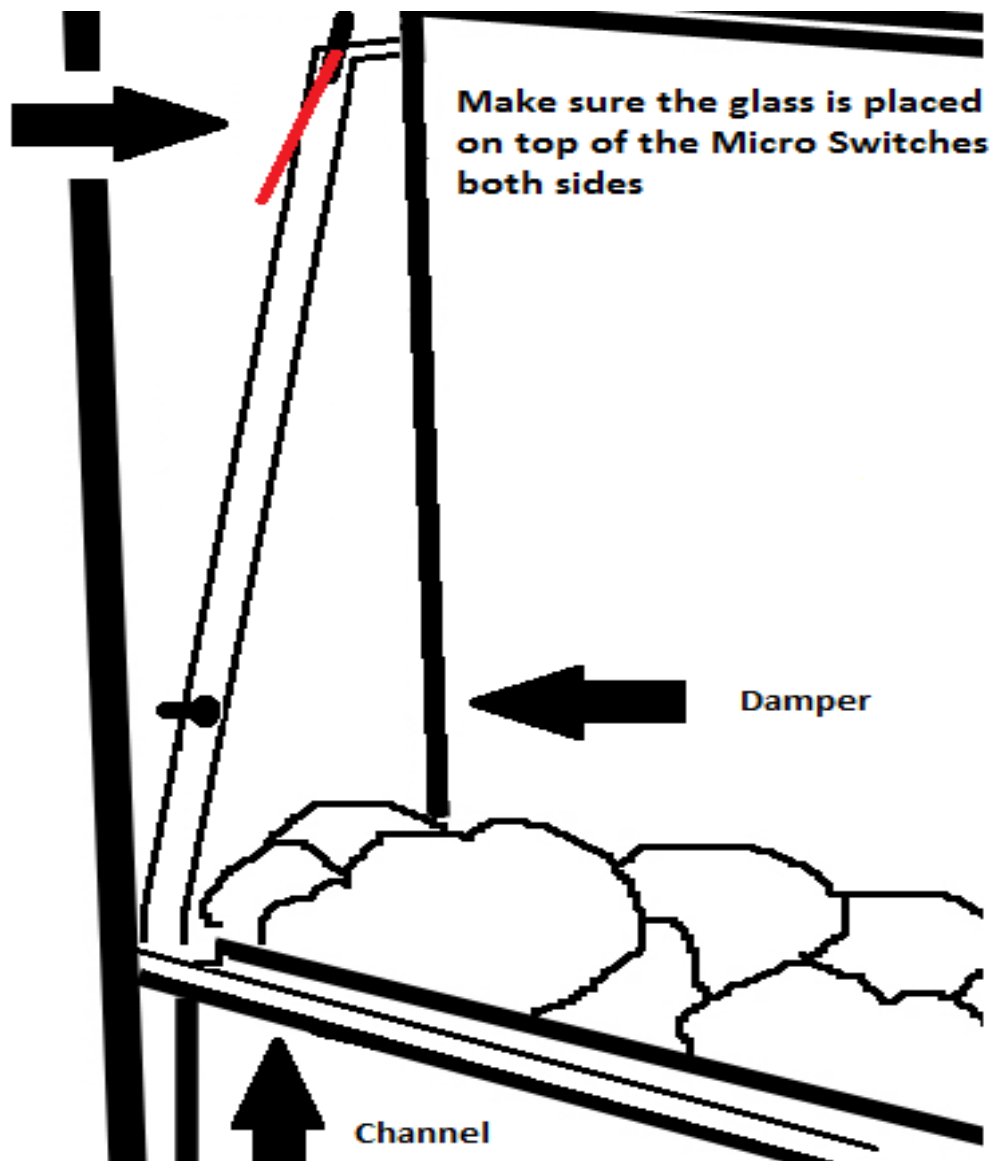

Fig.1
**Fuel Effects:** Once the fire has been installed in the correct position, unpack the fuel effect from the accessory box and arrange exactly as the instruction inside that box. Be mindful to tilt the logs toward the back of the fire so not to foul the glass in Fig.1.
**Fitting the Glass:** Whilst holding at the bottom of the glass, place the top edge through the fire opening up both sides of the interior making sure you start after the dampers and lift over the micro switches on both sides at the top. **IMPORTANT Fig.1: The glass must be placed on top of the metal arm and NOT under!** Allow the bottom edge of the glass to sit into the channel in front of the fuel bed. To remove the glass, in the open fully tilted position hold from the very top, pull out of the channel and carefully remove through the opening, bottom edge first.